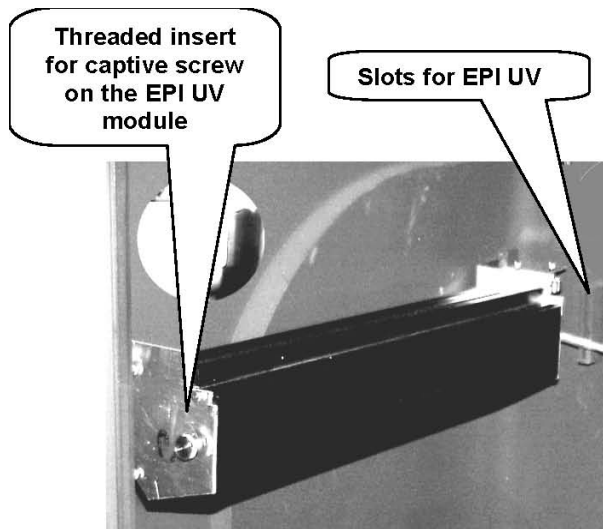

Figure 3.19A
4. Secure the module using the captive screw by lining up the front side of the module with the hole located in the wall of the instrument (Figure 3.19A).